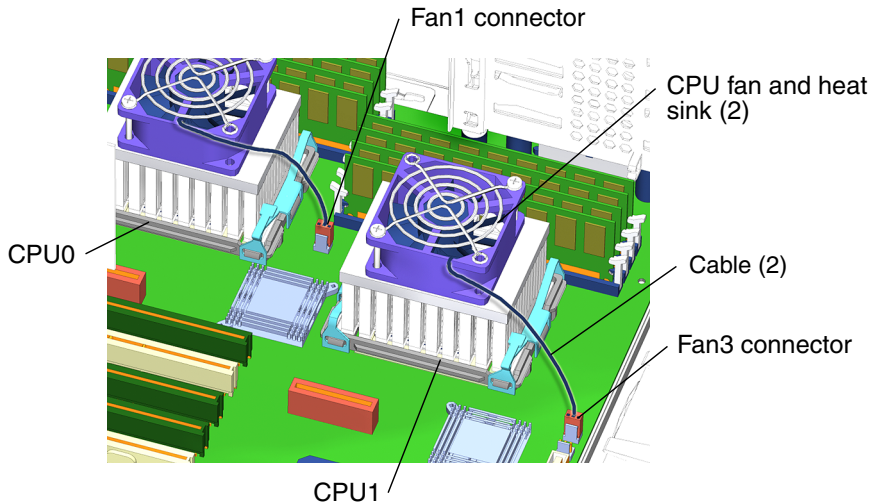

FIGURE 11-20 Connecting CPU Fan and Heat Sink Assembly Connectors
Arrange the CPU fan so that the cable is facing the bottom-front corner of the chassis (FIGURE 11-20).
- 6. Connect the CPU fan and heat sink assembly cable (FIGURE 11-20).**